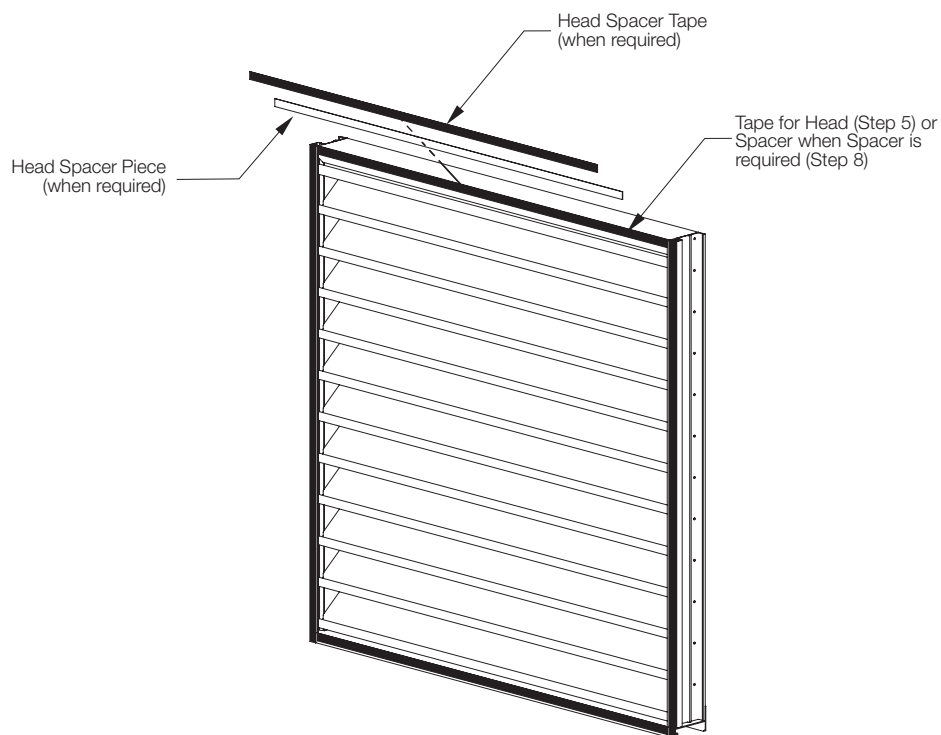

Figure 1.2
5. Apply the VHB tape to the front louver face as shown in Figure 1.2 ensuring the tape edges are flush with the outside edge of the louver frame. Leave the protective backing on the tape.